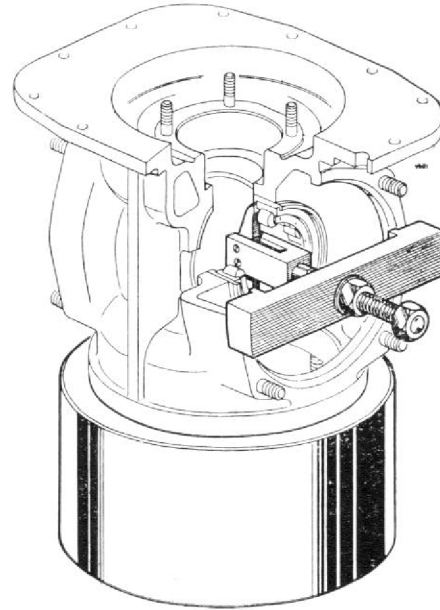

Fig. 4. Extractor T.78408 for removing the upper vertical drive outer roller race.
2. Remove the two circlips which retain the upper and lower vertical drive bearings in the centre housing. Loosen the centre bolt nut of extractor T.78408 and adjust the bolt until the two toggles pass through the upper vertical outer roller race; pull out the bolt until the flat ends of the toggles bear on the underside of the race and the bridge of the extractor rests on the centre housing, Fig. 4.